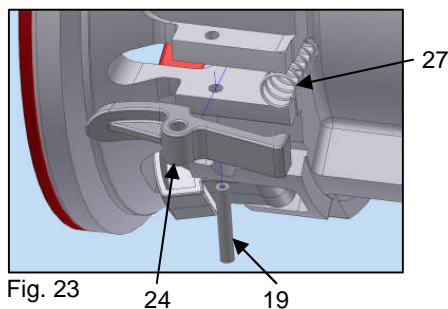

Fig. 23
25. Use a punch and hammer to remove Spring Pin (19) from Body (1). The Safety Lug (24) and Spring (27) will now be free to remove. Discard safety lug, spring and spring pin. (Fig. 23)
26. Insert New Safety Lug (24) into the slot in the Body (1). Secure interlock lug to body with New Spring Pin (19) with a hammer. Insert New Spring (27). (Fig. 23)